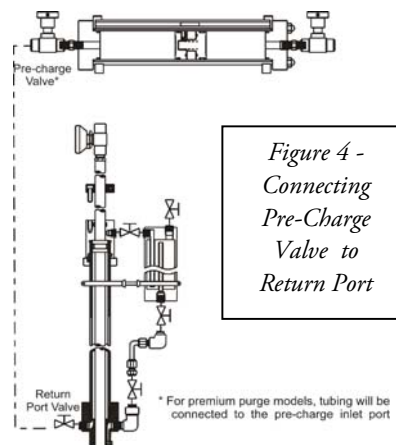

Figure 4 - Connecting Pre-Charge Valve to Return Port
- Use small diameter stainless steel tubing to connect from the cylinder's pre-charge inlet valve to the valve on the return port of the probe (see Figure 4). If you have the premium purge model, connect from the sampler to the pre-charge inlet port (see Figure 3).